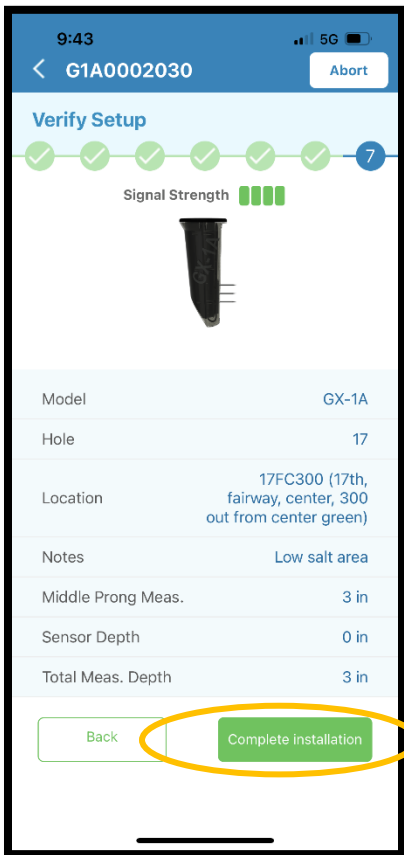

Figure 27
- To Complete the installation, tap Complete Installation on the bottom of the provisioning screen (Figure 27) and then select “Exit” on the final provisioning screen (Figure 28).